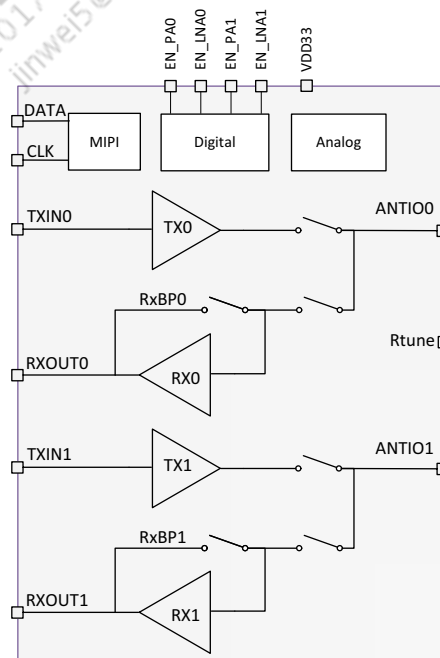

Figure 1-1 QFE1922 functional block diagram
The QFE1922 is a fully integrated, single chip front end (FE) solution that supports 802.11 WLAN operation delivering high power, high linearity and high receiver sensitivity. Figure 1-1 provides a functional view of the chip architecture. QFE1922 integrates a power amplifier (PA), low noise amplifier (LNA), and transmit receive switch (TRSW) supporting 802.11 b/g/n/ac DBDC/DBS. QFE1922 has a dual channel feature to support band simultaneous (DBS) or dual band concurrency (DBC). The level of feature integration for this Si based device makes it an ideal solution for 4 x 4 MIMO access point (AP) applications.